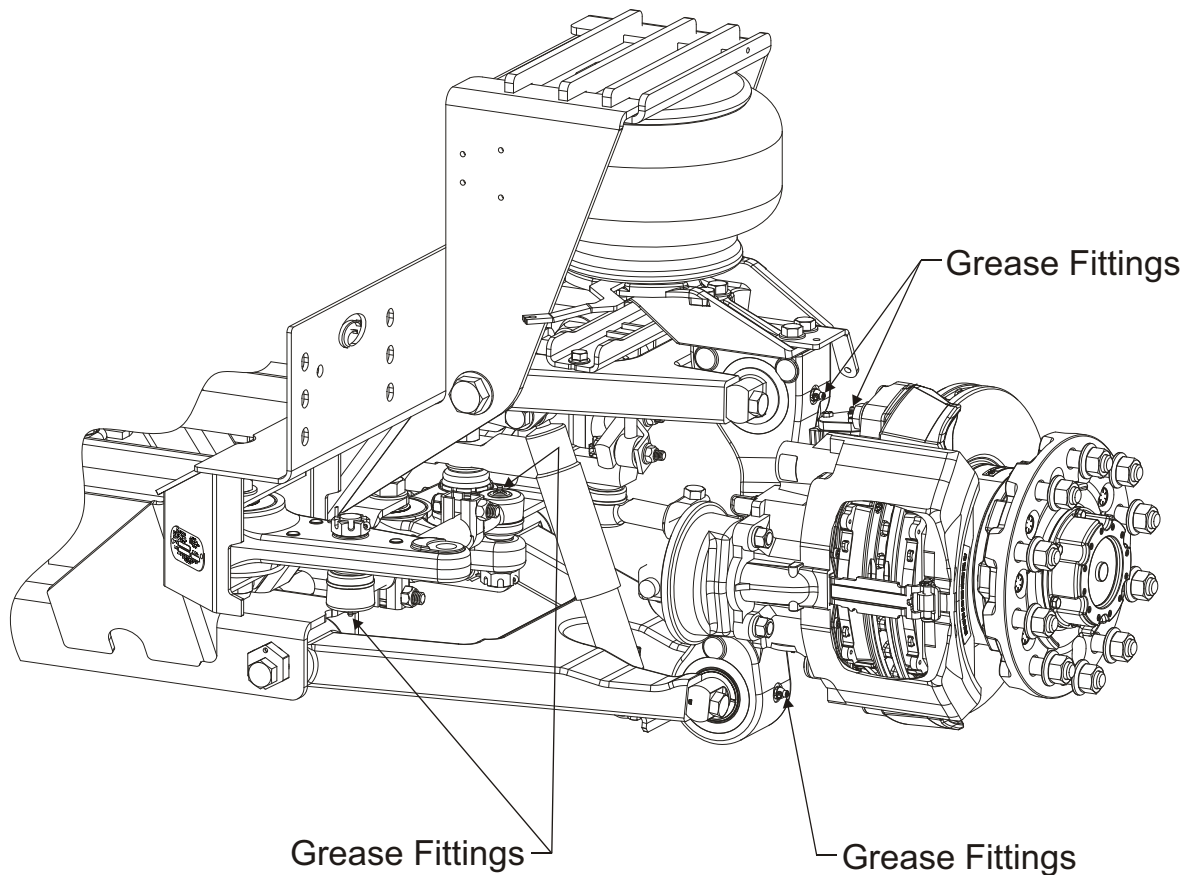

Figure 4 – Location of lubrication fittings. Note: Left side only shown.
2. Apply lubricant to grease fitting until new lubricant discharges from the dust boot (**Figure 4**).
2. Apply lubricant to the S-cam tube until new lubricant discharges from the S-camshaft bushing seal next to the automatic slack adjuster. (**Figure 4**).
3. Apply lubricant to the automatic slack adjuster until new lubricant discharges from the cone clutch adjacent the adjusting hex nut. (**Figure 4**).
1. Apply lubricant to both upper and lower carrier bearings and kingpin bushings until new lubricant discharges from the carrier bearing seals and in between the steering knuckle kingpin housing and carrier. (**Figure 4**).